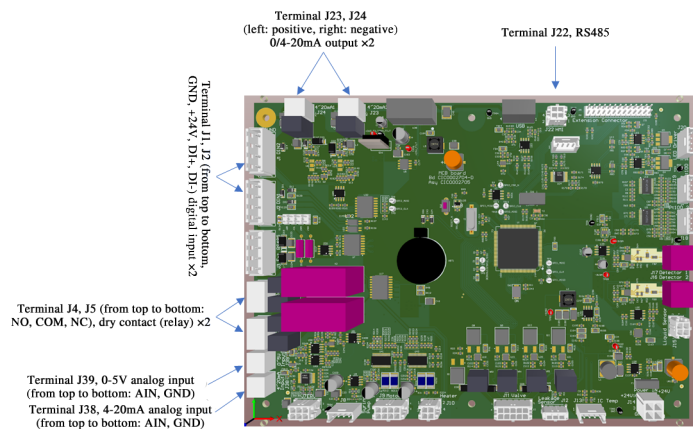

Figure 9. Diagram of Main Interface of Measurement Interface Drive Panel
In addition, the measurement interface drive panel also includes a lot of external interfaces, including (2) 0/4 - 20 mA output interfaces, (2) digital input interfaces, (2) relay control interfaces and (1) 0-5 V analog input interface, and (1) 4 - 20 mA analog input. Refer to **Figure 9** for the main interfaces.
The cable marked “24 V” and “GND” in the above figure gets power from J2 on the instrument internal measurement interface drive panel. The cable marked “COM” and “NO” is connected to relay #2 (COM and NO of J4). Externally connected water pump is controlled via relay #1 (J5), as shown in **Figure 9**.
The instrument provides two-circuit 4 - 20 mA active analog signal outputs through the power control board, which can drive a load of up to 900 Ω. J23 and J24 are 4 - 20 mA analog signal wiring terminals (see **Figure 9**), and **Table 5** provides the description of corresponding functions. Refer to **Figure 15** for the schematic diagram of 0/4 - 20 mA current loop link. Note that since the instrument 4 - 20 mA itself is active, it shall not be treated as passive and connected with an additional power supply, otherwise the 4 - 20 mA output module will be burnt.
The instrument provides two relays, J4 and J5, without voltage contacts through the measurement interface drive panel (see **Figure 9**). Two contacts: normally open (NO), normally closed (NC) and common terminal (COM). The maximum rated capacity of relay contacts is 240 V, 2 A. The maximum acceptable cable size for the wiring terminals is 14AWG. **Table 6** describes J4 and J5 wiring terminals and corresponding functions.